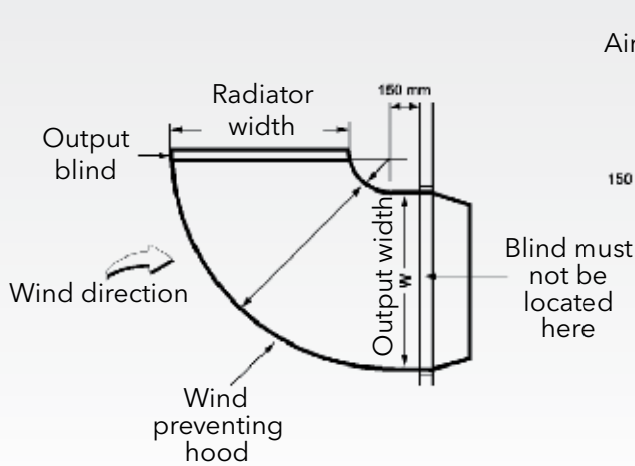

Figure 8
1. Hood can be located 90 degrees as seen on Figure 8. In this case, air discharge blinds will be mounted on hood output. In this method, additional precautions may be implemented according to rain or any other climate conditions.